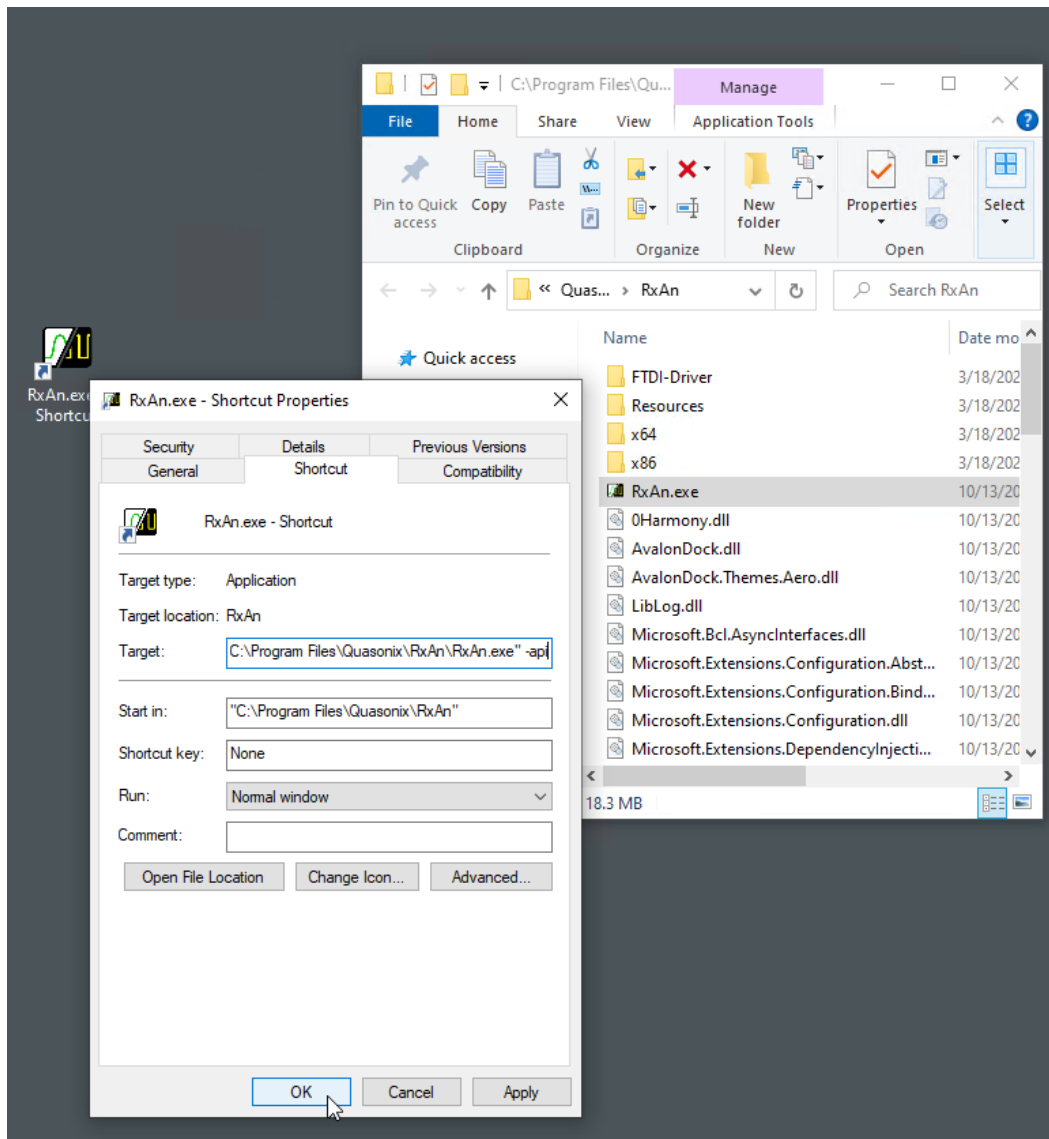

Figure 323: Shortcut Properties, OK Button Starts API Server
5. Click on the OK button, as shown in Figure 323. When RxAn is started using this shortcut, the API Server is also started.